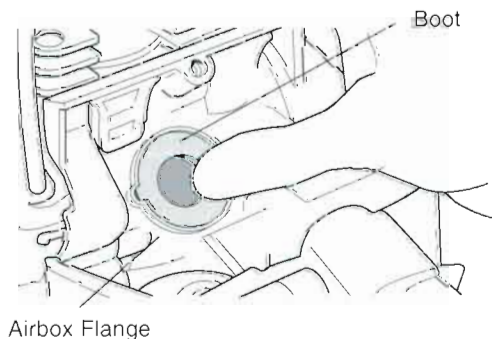

Figure 7.2 Pushing the Boot Through the Airbox Flange (575)
STEP 1. Remove the air cleaner and cylinder covers, and then remove the air cleaner and carburetor as described in Section 3. On saw models with boot-mounted carburetors, push the rubber carburetor boot through the carburetor flange in the air box (Figure 7.2).